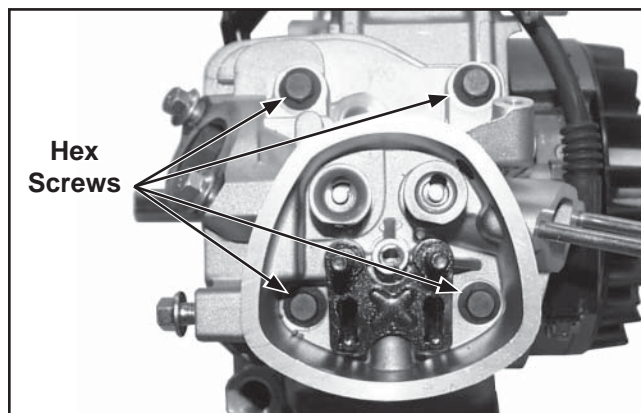

Figure 9-32. Remove Cylinder Head Mounting Screws.
4. Remove the four hex flange screws securing the cylinder head. See Figure 9-32.